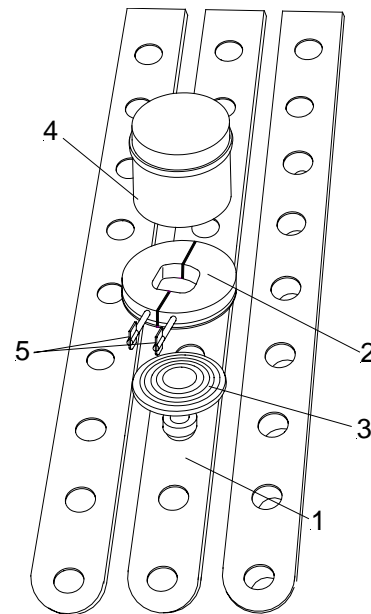
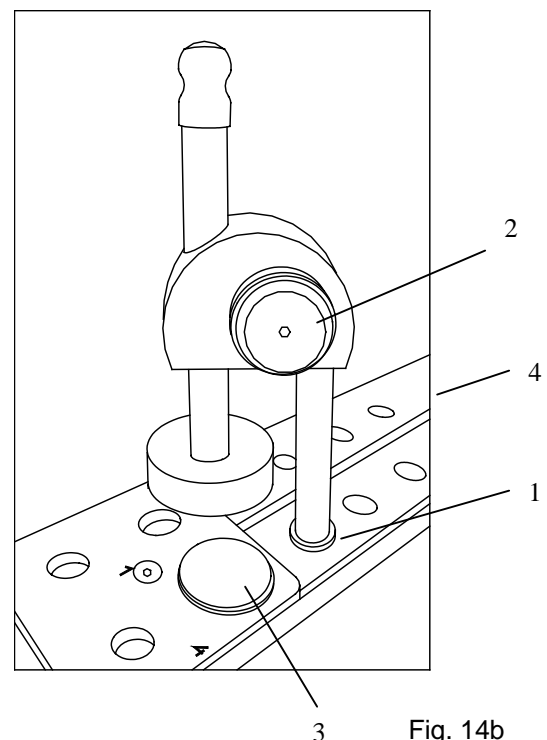

Fig. 14a
Fig. 14b
Two different heat extractors (fig. 14a and fig. 14b) are available:
Heat extractor (fig. 14a):
- Insert the chuck (fig. 14a.3) into the fast freezing rail (fig. 14a.1).
- Then insert a cryo mold (fig. 14a.2) onto the chuck (30 or 40 mm).
- Fill freezing medium into the mold (fig. 14a.2) and place the specimen onto the freezing medium.
- The heat extractor (fig. 14a.4) is placed horizontally onto the specimen.
Heat extractor (fig. 14b):
- Insert the heat extractor (fig. 14b) into the fast freezing rail (fig. 14b.1).
- To precool the heat extractor, turn the knob (fig. 14b.2) to lower the heat extractor onto the fast freezing plate (fig. 14b.4).
- Turn the knob (fig. 14b.2) to lower the heat extractor onto the specimen (fig. 14b.3).
- Further turn the knob (fig. 14b.2) to increase the pressure onto the specimen. Carefully observe this process to avoid a possible deformation of the specimen.
- To loosen the heat extractor, turn the knob (fig. 14b.2) in opposite direction.